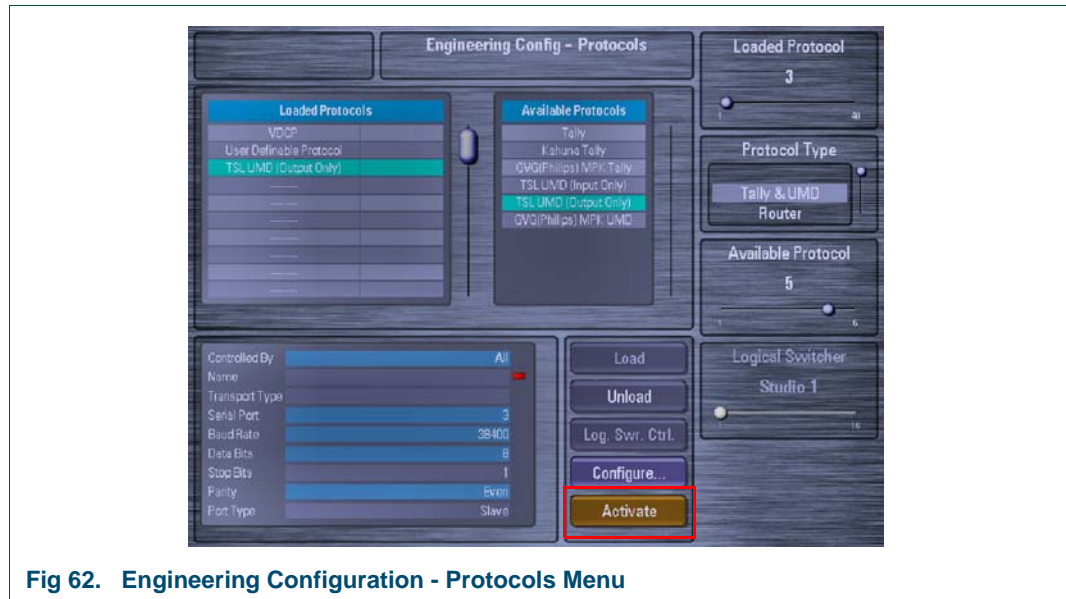

Fig 62. Engineering Configuration - Protocols Menu
- Once you are happy with the setup, touch the **{Activate}** button on the **Engineering Config - Protocols** menu to activate the protocol (Fig 62.).